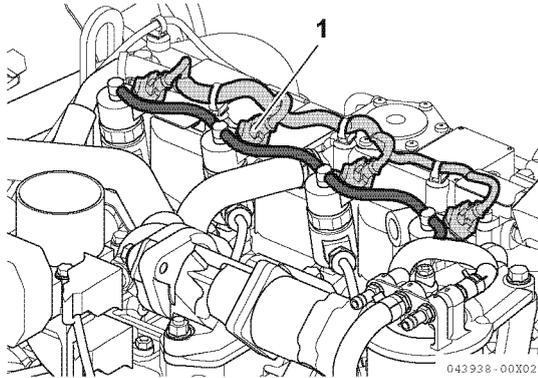

Figure 7-4
2. Remove the coupler (1, **Figure 7-4**) from the upper part of the injectors and place them aside.